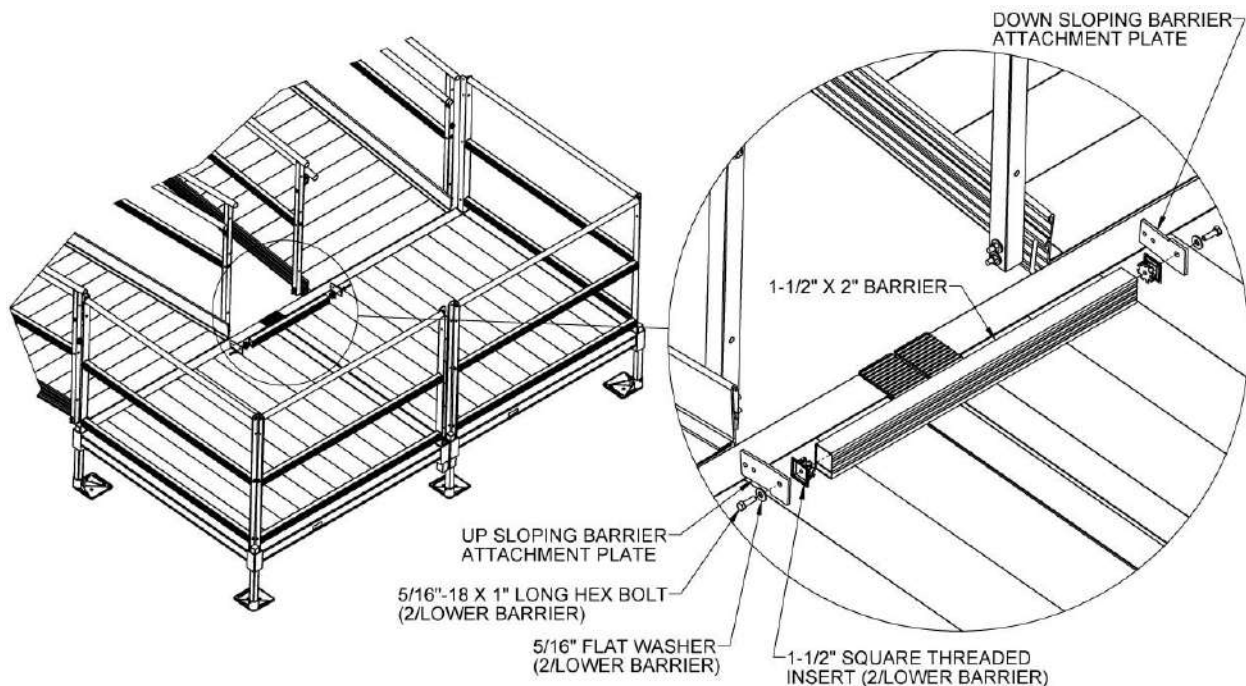

FIG. 5.21
- 5.6.3. The barrier is provided in the length needed for the platform side and should not need to be trimmed. Insert 1-1/2" square threaded inserts into both ends of the 1-1/2" x 2" barrier. Use a rubber mallet or similar tool to fully seat as needed (FIG. 5.21).
- 5.6.6. Align the barrier attachment plates with sides of the barrier and tighten fasteners securely (FIG. 5.21).